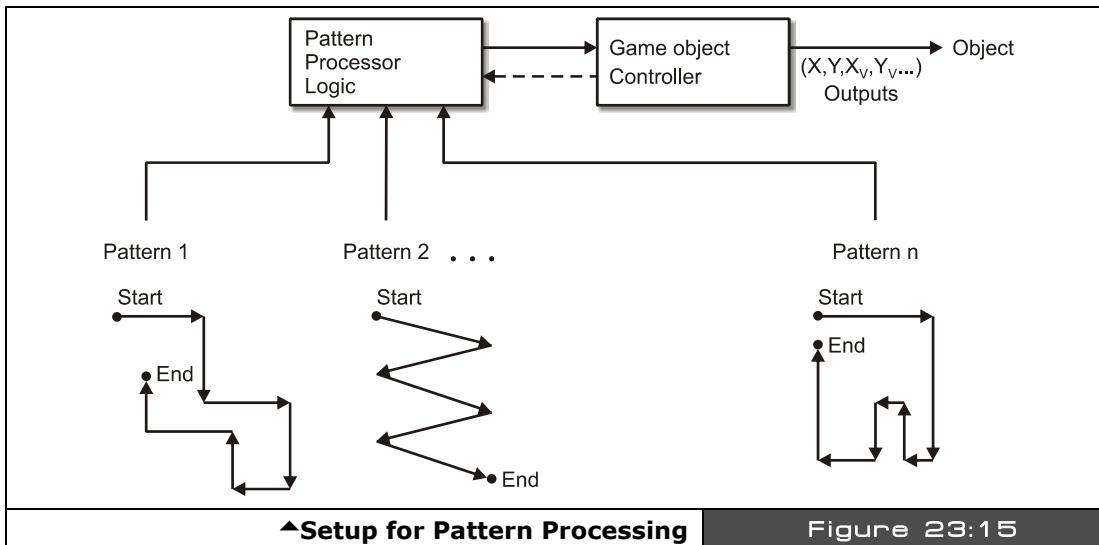

Figure 23:15
For example, take a look at Figure 23:15, here we see a setup for motion control of game characters. There are a set of pre-recorded flight or motion patterns, a **pattern processor** state machine that reads the patterns and then sends the information to the game AI's. So in essence the patterns themselves are really "**programs**" and the pattern processor logic is really the "**interpreter**." This is a very powerful paradigm as you might imagine. With it we can basically through programmatical control create huge arrays of patterns, motions, flights, whatever, store them as patterns and, using some logic, select and play them through the AI's. This is exactly how 90% of all sports games work. For example, the designers of the latest football, basketball, baseball, hockey, etc. games spend weeks, if not months, recording "plays" for the game AI characters to execute. Of course, these plays are far more complex than what we are going to do, but the ideas are the same: to come up with a "**language**" or instruction set of sorts that a pattern processor or interpreter reads and executes. In essence, we are creating a "**virtual machine**" in software that has an instruction set, program, and executes resulting in control of our game characters!
The first thing you will notice is that PL0 has no operands, it's a pure opcode-only instruction set, thus its use is limited and not very flexible. For example, all the movements are fixed since they are not parameterized, but as a start this is fine. Anyway, take a look at Figure 23:16, here we see couple patterns and behaviors coded with this language. The square pattern in Figure 23:16(A) would be: